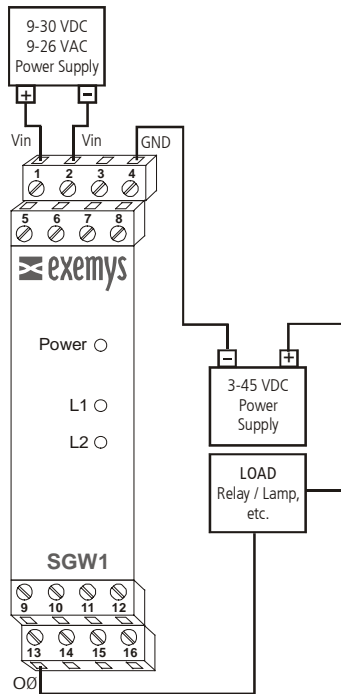

Figure 6 - The load and the Exemys device using two different power supplies
- **Case A:** The external load and the Exemys device use different power supplies. (See Figure 6)